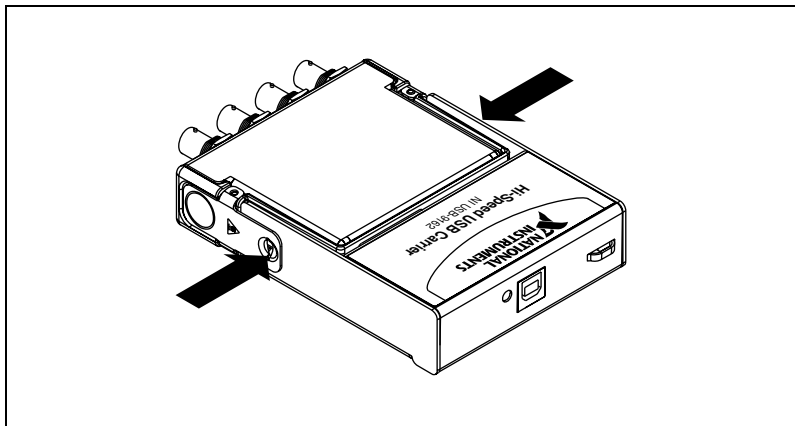

Figure 4. Locking Module into Place
5. Press firmly on the connector side of the NI 9233 module until the latches lock the module into place, as shown in Figure 4.